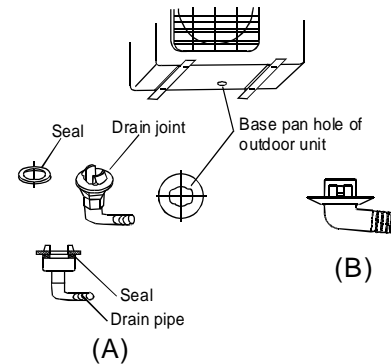

Fig.15
For the drain joint with the seal(Fig.15 (A)), first fit the seal onto the drain joint, then insert the drain joint into the base pan hole of outdoor unit, rotate 90° to securely assemble them. To install drain joint as shown in Fig.15 (B), insert the drain joint into the base pan hole of outdoor unit until it remains fixed with a clicking sound. Connecting the drain joint with an extension drain hose (Locally purchased), in case of the water draining off the outdoor unit during the heating mode.